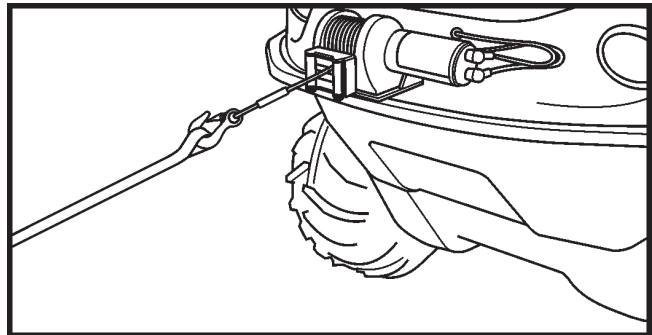

Figure 11-8. Using the Hand Saver Strap.
7. Keep clear of winch wire rope and hook when operating winch. Never put your fingers through the hook when reeling in the last few feet of line. If your finger should become trapped in the hook, you could lose your finger. Use the **HANSAVER STRAP** (Figure 11-8) to guide the hook within the last few feet. Never guide a wire rope onto the drum with your hand.